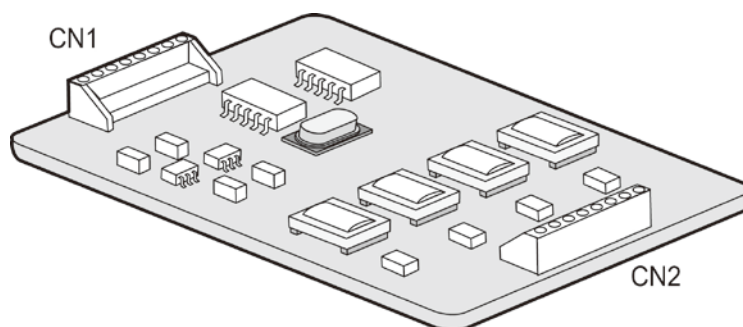

Figure 4.8.4-1 MG-CMU4
The MG-CMU4, as shown in Figure 4.8.4-1, provides the Call metering function for analog CO lines. The CMU circuitry detects call metering and signaling information sent from the PSTN at 50 Hz, 12 KHz, or 16 KHz. The MG-CMU4 has four (4) circuits each connects to a separate CO line. MG-CMU4 can be installed on the CN8 and CN9 connectors of the KSU MBUA, KSU MBUAD or the EKSU EMBU to support the built-in CO lines. The CMU4 is installed on connectors CN790 and CN791 of optional Interface boards with analog CO lines including the CH204, CH408 and CS416.